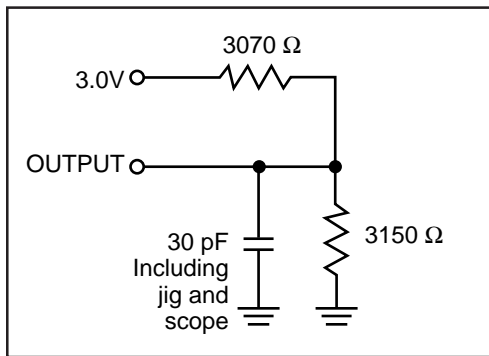

Figure 1
Output Load	See Figures 1 and 2
1. Test conditions assume signal transition times of 5 ns or less, timing reference levels of 1.5V, input pulse levels of 0.4 to 2.2V and output loading specified in Figure 1.
- Test conditions assume signal transition times of 5 ns or less, timing reference levels of 1.5V, input pulse levels of 0.4V to 2.2V and output loading specified in Figure 1.